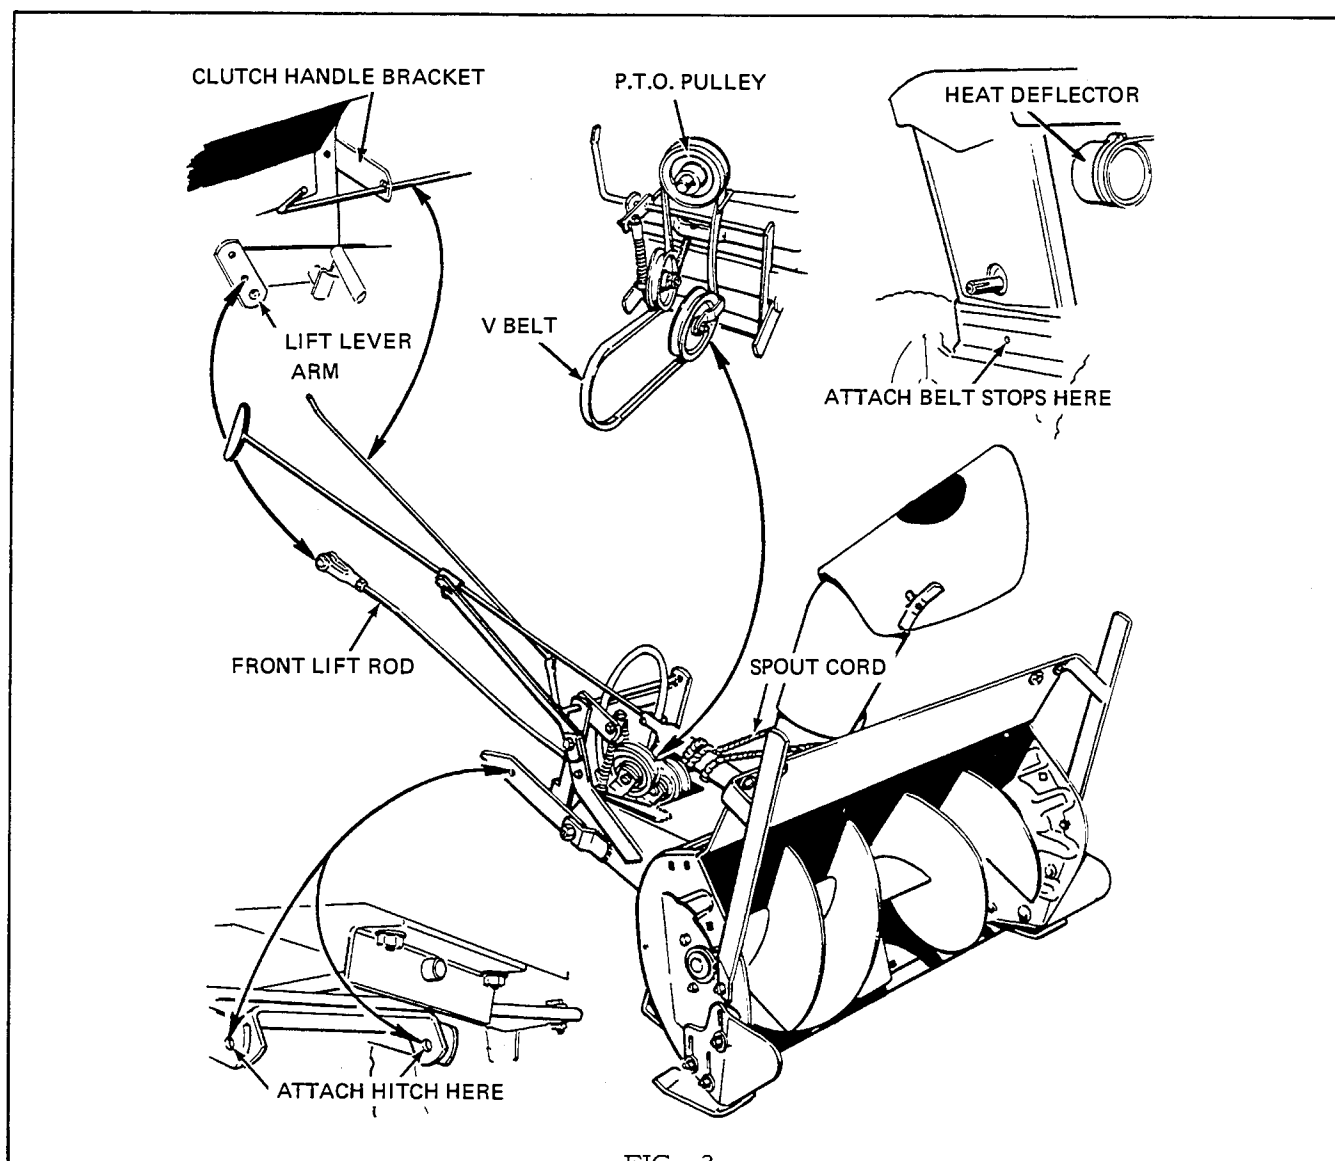

FIG. 2
5. Remove 5/16-18-1/4 long hex capscrew, lock and plain washer from tractor directly below front mounted P.T.O. shaft. Insert through two belt fingers and reassemble. DO NOT TIGHTEN. (See Fig. 2).
6. Attach front mounted P.T.O. pulley to shaft. Secure 3/8-24NF setscrew down on key. (See Fig. 2).
7. Attach hitch assembly to tractor with two pins and two spring clips. (See Fig. 2).
8. Place belt around front mounted P.T.O. pulley. (See Fig. 2). The belt should be a minimum of 54-1/4" in length.
13. Position discharge spout directly forward. Position control tube so that cord clamp faces side of spout. Provide two (2) coils of cord on both sides of clamp. Position free ends of cord around spout and clamp securely into position after removing all slack from cord. (See Fig. 2).
14. Remove forward, top capscrew from R.H. side panel. Insert clutch handle bracket between side panel and side member of fuel tank and steering post support assembly. Secure with same capscrew and lockwasher. (Fig. 2)
15. Insert clutch control rod through bracket and attach to clutch pivot and secure in place with spring clip. (See Fig. 2). The addition of plain washers, nylon washers and locknut to the clutch linkage assembly will assure a positive disengagement when the clutch handle is pulled in the disengaged position. The locknut should be set to a torque setting of 4 ft. lbs. It should require
17. The lift lever quadrant on the side of the tractor contains a series of holes and a pin. Place pin in the foremost hole of quadrant and secure in place with hair pin cotter. Release lift lever and place in a forward position. Attach yoke end of front lift rod to lift lever arm using top hole in R.H. side of tractor, with yoke pin and hair pin cotter. Insert lower end of lift rod into lift arm bracket of push bar and secure with hair pin cotter. The lower end of front lift rod is to point away from tractor. (See Fig. 2).
18. Position heat deflector over muffler and adjacent to engine. Flap of deflector to be positioned against air cleaner. Secure with clamp provided. (See Fig. 2).